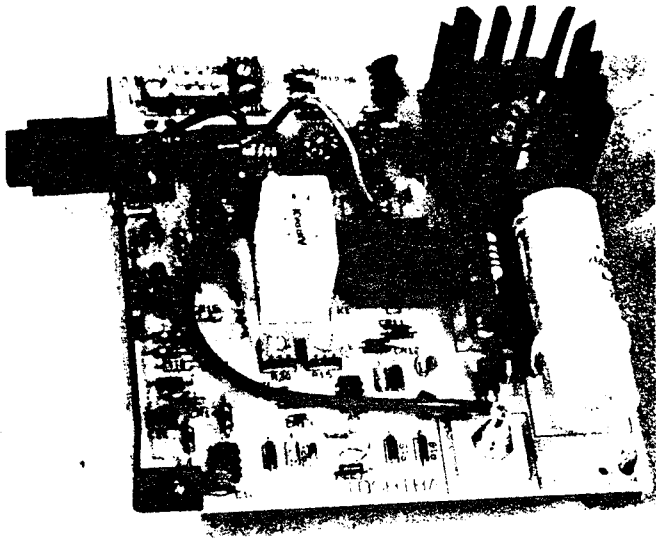

FIGURE 7 — PBBU PCB
02.01 The power battery back-up unit (PBBU) in Figure 7 is an optional PCB which may be installed in the EPSA-104 to interface with two auxiliary 12 VDC batteries. In the event of an electrical power failure, the PBBU provides an automatic battery power source, permitting a typical STRATA system to continue normal operations for some time (in direct ratio with the type and size of the batteries chosen).
- The "Battery Override" switch (Figures 7 and 8) is placed in the ON position, or . . .